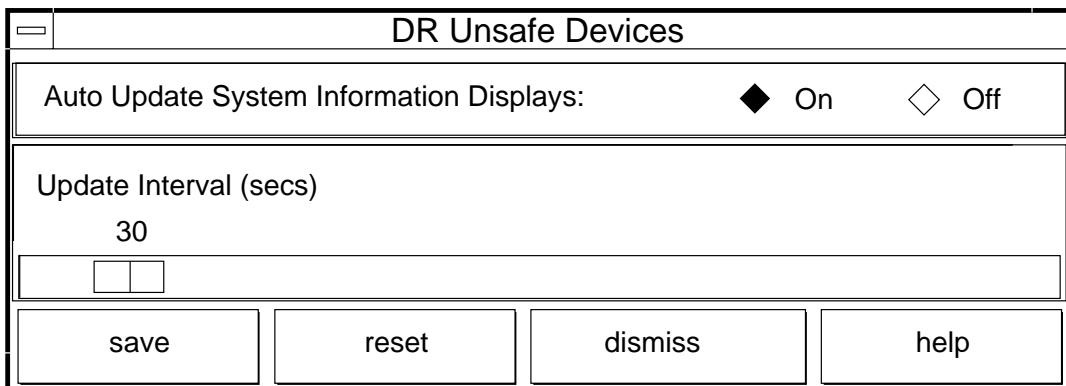

FIGURE 3-7 DR Properties Window
1. **Click the Properties button in the Dynamic Reconfiguration window (FIGURE 3-7).**